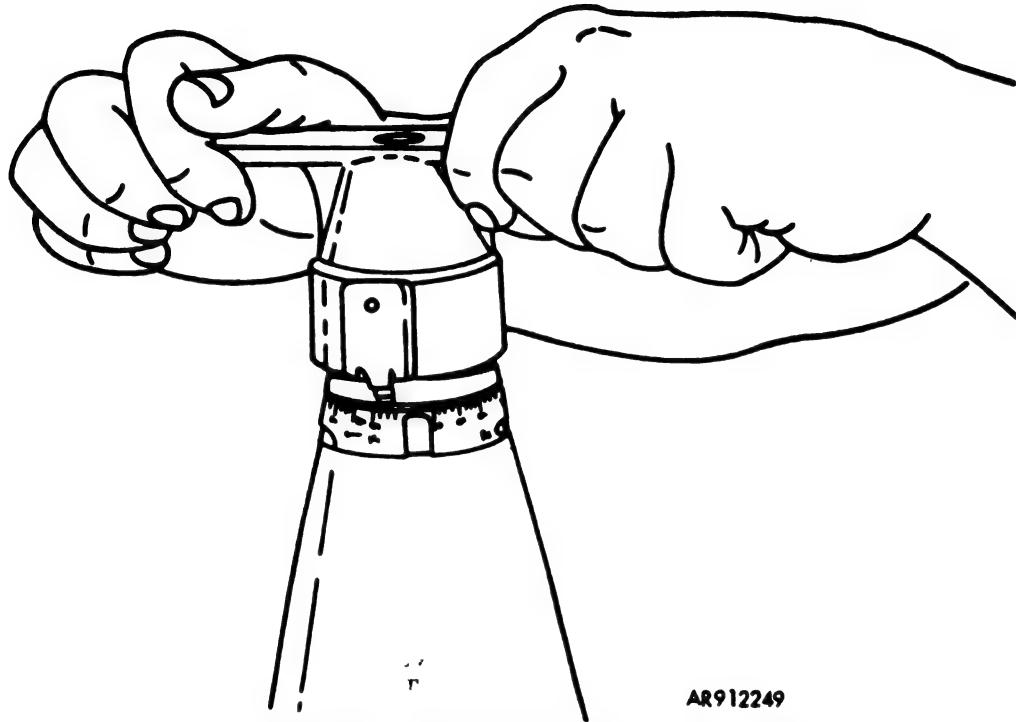

Figure 211.34. M27 fuze setter on M728 and M732 fuzes.
b. Procedure No. 2 M728/M732 (fig. 211.34).
(1) To set fuze for proximity action, rotate nose cone with M27 fuze setter (normally in clockwise direction while locking down on nose of fuze) until the index mark coincides with the announced time (fig. 211.34). Fuze setting can be changed one or more times with no harmful effects.
(2) For impact functioning of M728/M732 fuzes, set fuzes to 90 seconds using the M27 fuze setter.
(3) Fuze is set when index line at base of nose cone is aligned with time, in seconds, engraved on base of fuze.
(4) Deleted.
(5) Deleted.
(6) Firing temperature limits for proximity fuze M728/M732 are -40°F to +140°F.